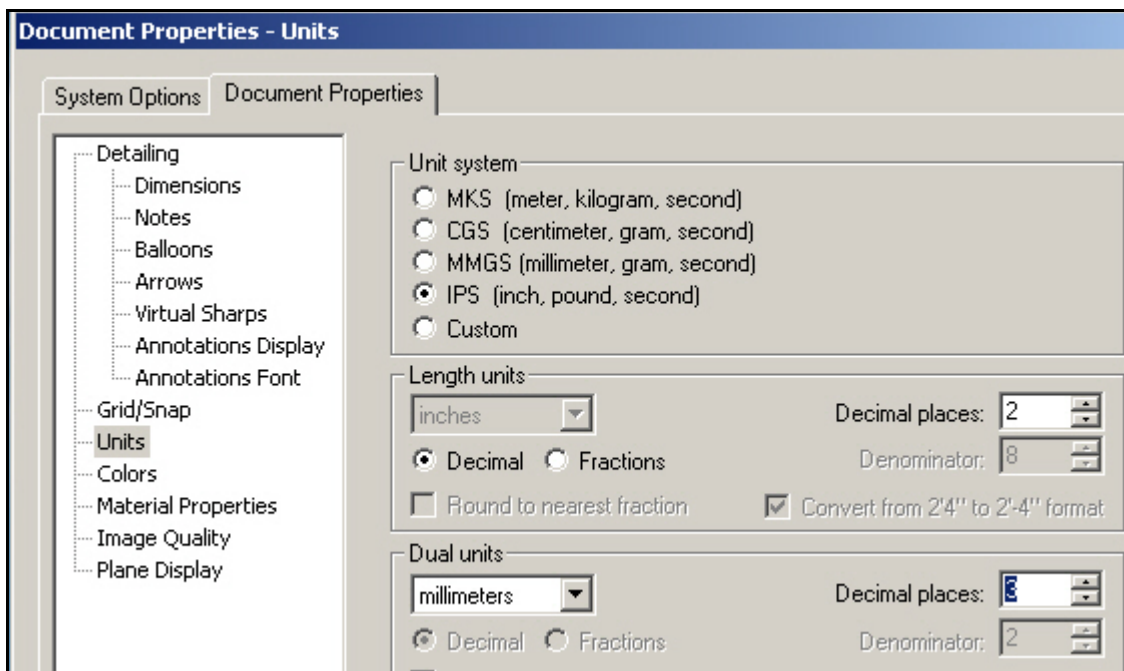

Figure 1 Selecting drawing units
1. Pick **Tools→Options→Document Properties→Units** and select the **IPS Unit System**, select the number of decimal places to display and pick millimeters as the optional dual system (if you wish), as illustrated in Figure 1.